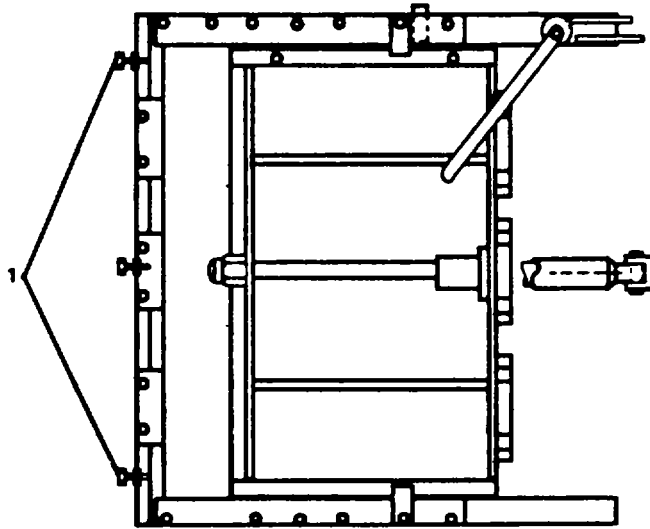

Figure 2-19. Adjust Hydraulic Watertight Door.
c. If the door sticks or if the clearance is exceeded, adjust the clearance by turning set bolts (1, Figure 2-19) in or out to obtain required clearance.